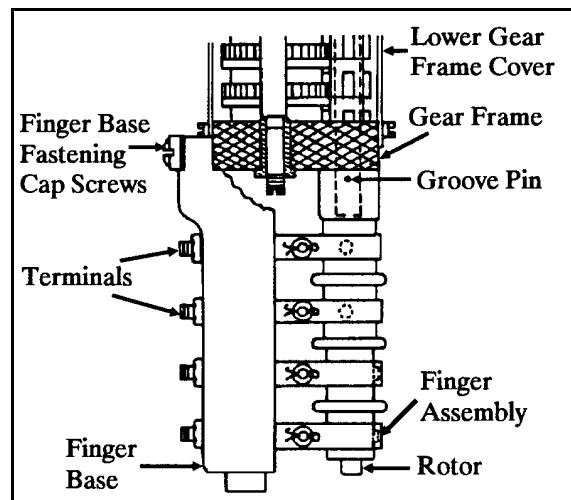

Figure 4-53 Limit Switch Rotor Replacement
31. Removal and Replacement of Limit Switch Rotors Refer to Figure 4-53